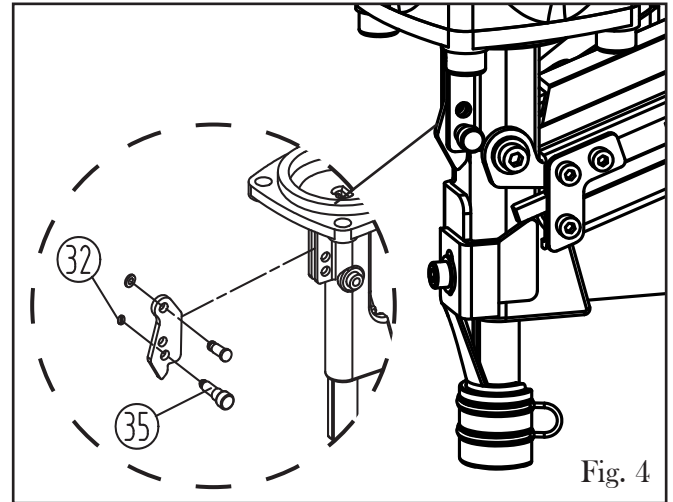

Fig. 4
### ADJUSTING THE ANGLE SETTING (Figs. 4, 5, 6)
2. To adjust the angle pin to your desired angle, first remove the O-ring (Part No. 61731-032) from the angle adjustment pin (If you cannot get it off with your fingers, use a pair of tweezers). Then re-insert the pin through the hole for the desired angle setting (Fig. 4).